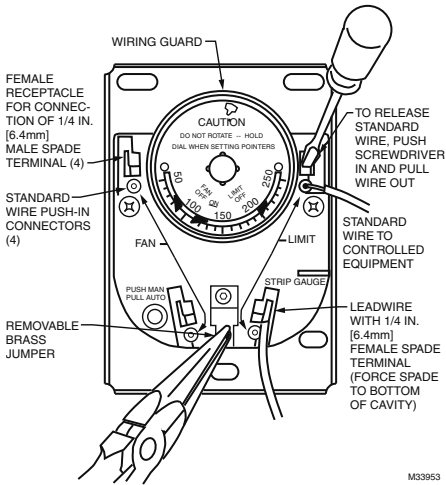

Fig. 5. Location of Wiring Connections.
Disconnect power supply before beginning installation to prevent electrical shock or equipment damage. All wiring must comply with local electrical codes and ordinances or in the absence of local codes with the National Electrical Code ANSI C1-1981-NFPA 70. Follow burner or furnace manufacturer's instructions if available; otherwise, see Fig. 5 and proceed as follows.
The brass jumper is the breakaway type. It must be removed when the limit is used in the low voltage circuit. To remove jumper, break with a needlenose pliers and remove completely. Once removed, it is not replaceable. See Fig. 5 for location.
When connecting cable or conduit to this controller, use care to avoid strain on the control case. Connections can be made to standard wire push-in terminals or female receptacles for 1/4 in. (6.4 mm) male flag connectors on both the fan and limit switches (Fig. 5).
3. Solid wire may be inserted directly into the terminal holes. If stranded wire is used, insert a small screwdriver into the slot next to the terminal. Push screwdriver in and hold while inserting wire into terminal (Fig. 5). Remove screwdriver. If stranded wire is solder-dipped, it can be pushed directly into terminal holes.
3. Push male flag connector directly into the female receptacle. Make sure that the flag is forced to the bottom of cavity and wire is in the channel (Fig. 5).